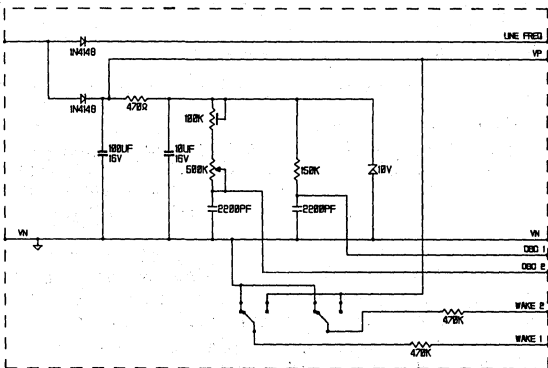

Fig.8 POWER SUPPLY INTERFACE WITHOUT STANDBY
1. Without battery standby facility Fig.8